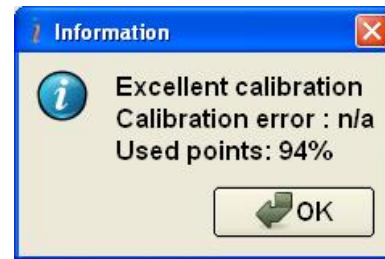
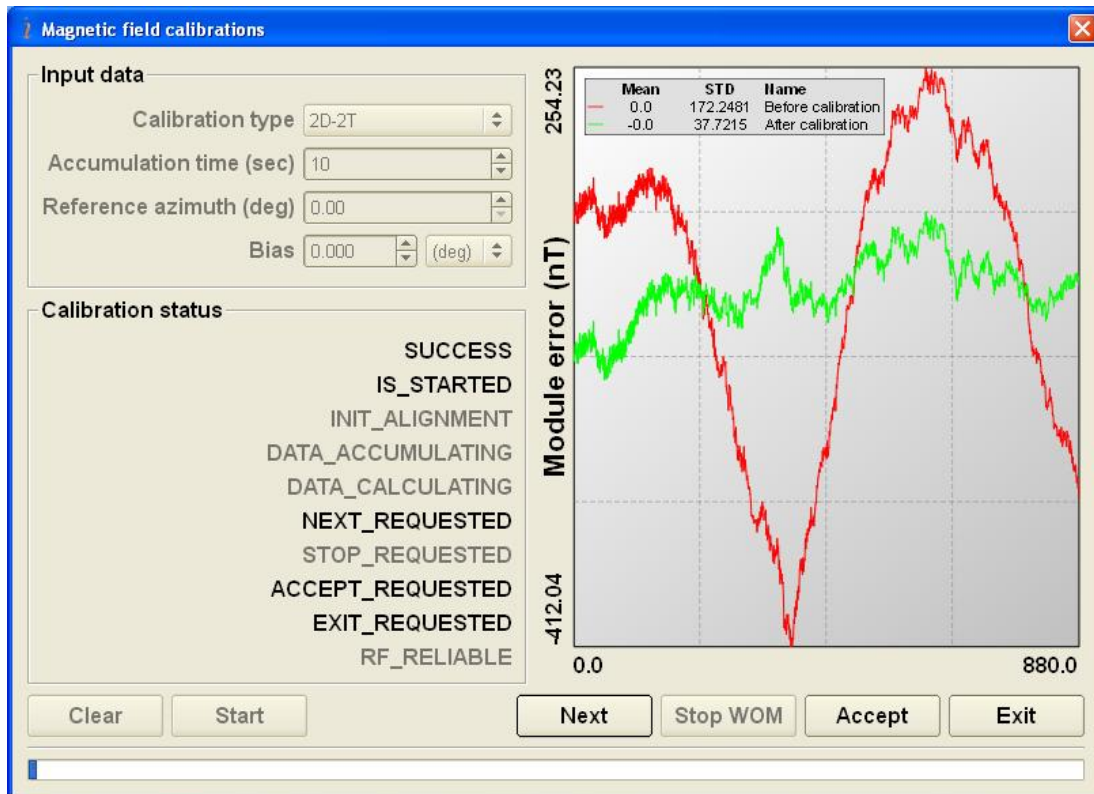

Fig. 10.9
Fig. 10.11
Quality of the 3D calibration will be estimated in terms «Excellent calibration!», «Good calibration» or «Acceptable calibration» (see Fig. 10.9) instead of predicted AHRS heading error if 3D calibration run did not include additional rotation of the AHRS in the horizon plane on about 360 degrees or more with pitch and roll near the level (see above Note).
If calibration quality is acceptable caption **ACCEPT\_REQUESTED** is highlighted (see Fig. 10.11).
For the next run of the **2D-2T calibration** the object with AHRS should be turned to the next pitch angle. Click «Next» button on window Fig. 10.11 and repeat calibration procedure as in the second stage.
Step 9. Once the data accumulation time is over at 2D, 3D calibration, or 2D-2T calibration is stopped after any stage, then window Fig. 10.11 appears where graphs of errors before and after calibration are shown. Plotted graphs are scalable. To zoom in please click and hold left button on mouse and drag mouse in down-right direction. Click and hold right button on mouse to shift plot. To zoom out please click and hold left button on mouse and drag mouse in up-left direction. Legend is located at the left upper corner of the tab. This legend shows mean value, STD and name of displayed graphs. It is possible to select the graphs you want to display by right-click on the graphs area.
Step 10. Estimate the calibration quality. If the calibration was successful and predicted heading accuracy is acceptable on window Fig. 8.8 or captions «Excellent calibration!» or «Good calibration» appear in the window Fig. 10.9, then click «**Accept**» button (Fig. 10.11) to accept calibration parameters. «Acceptable calibration» caption is satisfactory too but we recommend to recalibrate the AHRS.